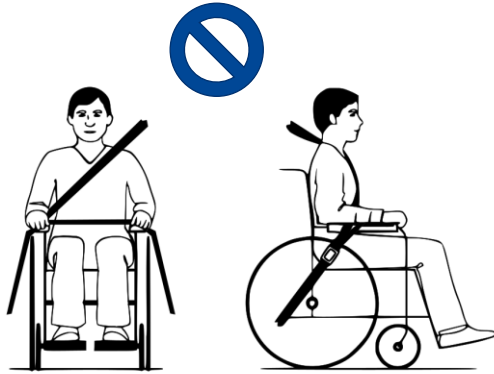

Figure 1 *Improper belt-restraint fit*
6. Make sure that belts are not twisted or held away from the body as shown in figure 1.